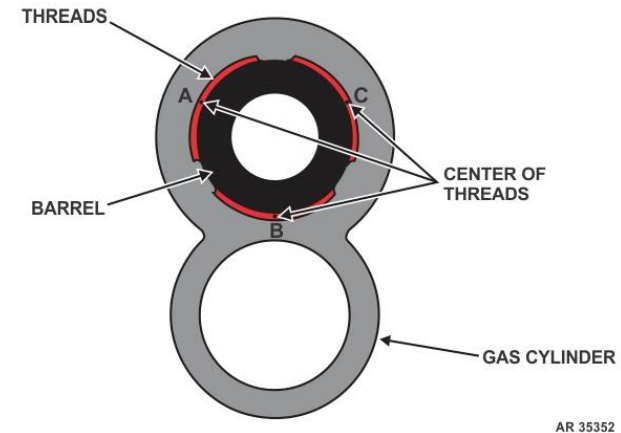
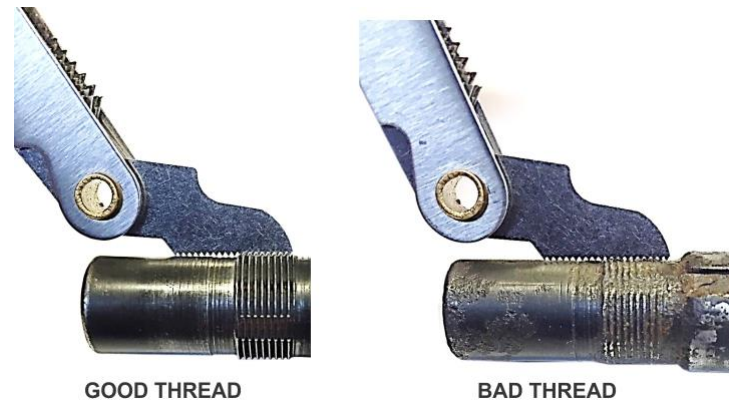

Figure 82: Thread Profile Inspection Points – View Looking at Muzzle
Figure 83: Thread Profile Inspection
- i. Place the thread profile gauge on the threads at location A (Figure 82) on the barrel. Visually inspect the thread profile to ensure that the thread profile matches the profile of the gauge (Figure 83). If the profile does not match the profile of the gauge, the rifle should not
- ii. Repeat the inspection at locations B and C (Figure 82).
- iv. Open the caliper and rotate the caliper around the barrel to take measurement B (Figure 82) and take the measurement using the same method as the first and record the measurement.
- v. Open the caliper and rotate the caliper around the barrel to take measurement C (Figure 82) and take the measurement using the same method as the first and record the measurement.